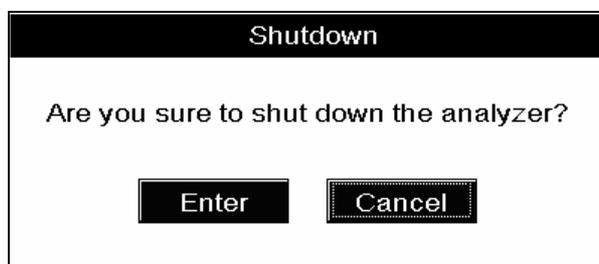

Figure 6-20 Shutdown message box
2. A message box will pop up to ask you to confirm the shutdown, as Figure 6-20 shows;